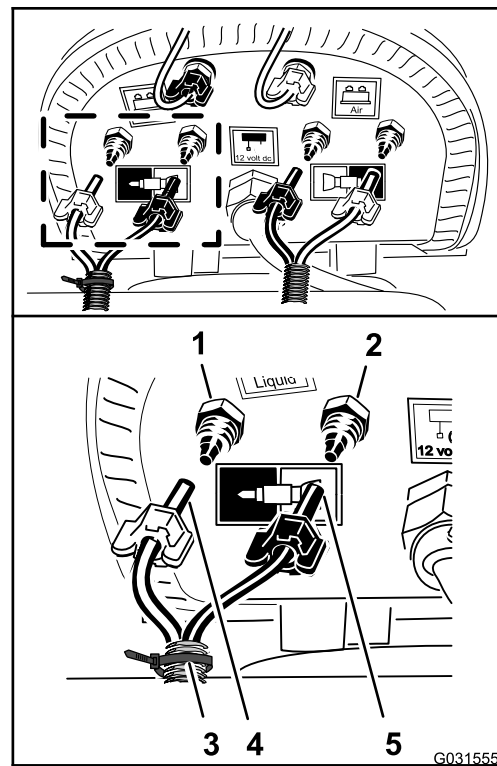

Figure 143
1. Connect the tubing with the cable tie that you prepared in step 9 of Preparing the New Tube Assemblies for the Foam-Marker Nozzles (page 12) by aligning the blue tube for the right spray section onto the compression fitting for the right-spray section water circuit (Figure 143).
2. Assemble the compression nut for the tube onto the fitting and tighten the nut by hand (Figure 143).
3. Aligning the clear tube for the right-spray section onto the compression fitting for the right-spray section air circuit (Figure 143).
4. Assemble the compression nut for the tube onto the fitting and tighten the nut by hand (Figure 143).